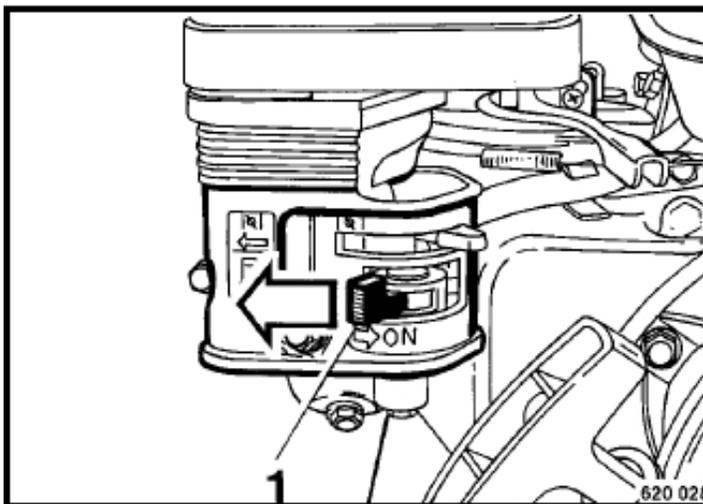

Fig. 29
- | Close the fuel valve 1 (Fig. 29).